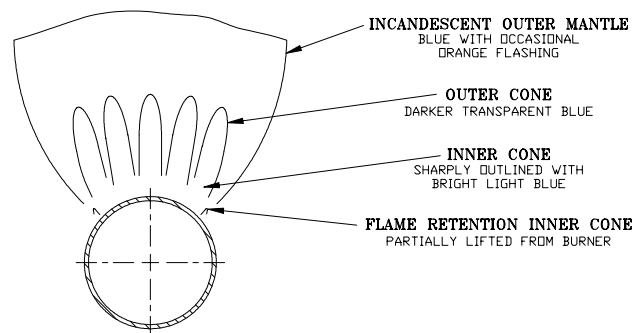

Figure 22: 40mm and 50mm Main Burner Flame
2. Additional Check on Input - Since input is a function of heating value, specific gravity, and volume of gas flow contact your utility for the first two items in order to utilize the formula below. The gas meter should then be clocked for three (3) minutes with stop watch and substituting the appropriate values in the formula below, determine what the gas flow should be in this 3 minute period to give the input shown on the Rating Label:
5. MAIN BURNER FLAMES should have a clearly defined inner cone (see Figure 22 or 23) with no yellow tipping. Orange-yellow streaks caused by dust should not be confused with true yellow tipping.